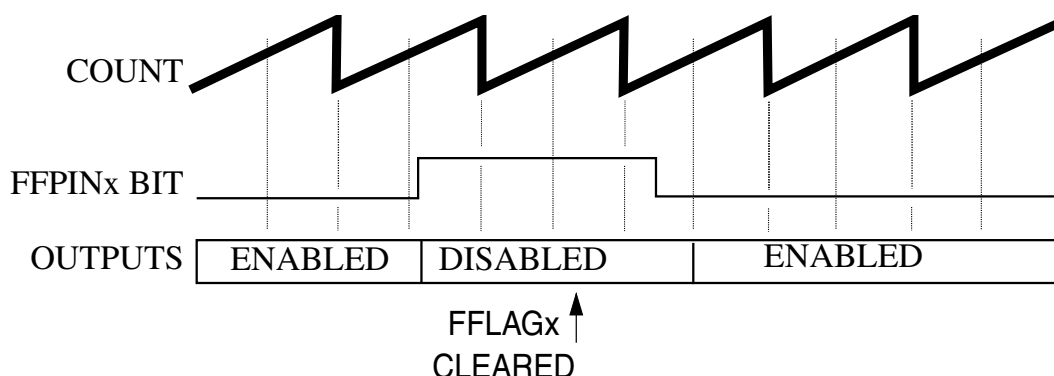

Figure 26-31. Manual fault clearing (FCTRL[FSAFEx] = 1, FSTS[FHALFx] = 1)
- The filter detects a logic zero on the FAULTx pin at the start of the next PWM full or half cycle boundary, as shown in Figure 26-31. If FSTS[FFULLx] is set, then the disabled PWM pins are enabled at the start of a full cycle. If FSTS[FHALFx] is set, then the disabled PWM pins are enabled at the start of a half cycle.